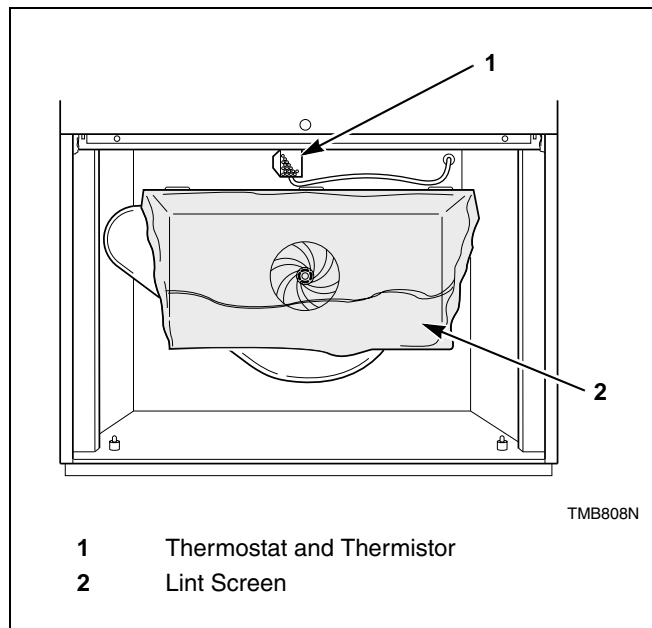

Figure 15
- a. Carefully wipe any accumulated lint off of the cabinet high limit thermostat and thermistor. Failure to do so will allow a buildup of lint in this area to act as an insulator, causing the tumbler to overheat. Refer to *Figure 15*.